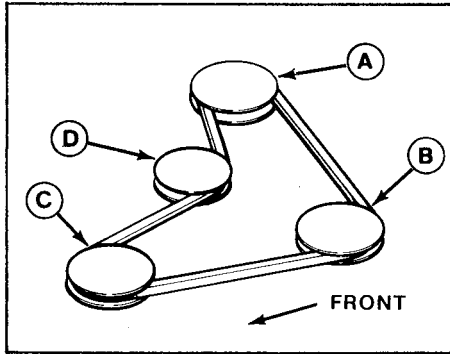

**Figure 26. Mower Belt Replacement**
2. Loosen the belt guide (C, figure 26) on the idler pulley (E).
5. Reposition the belt guide on the idler pulley (figure 26). Before tightening the nut (D), position the belt guide so it is 1/4 inch (6 mm) behind the idler arm (B) when viewed from above (figure 26). Hold the belt guide when tightening nut.
6. Reinstall the mower on the tractor (see Mower Installation). Engage the PTO lever and make sure the belt guide (C, figure 26) does not touch the belt.